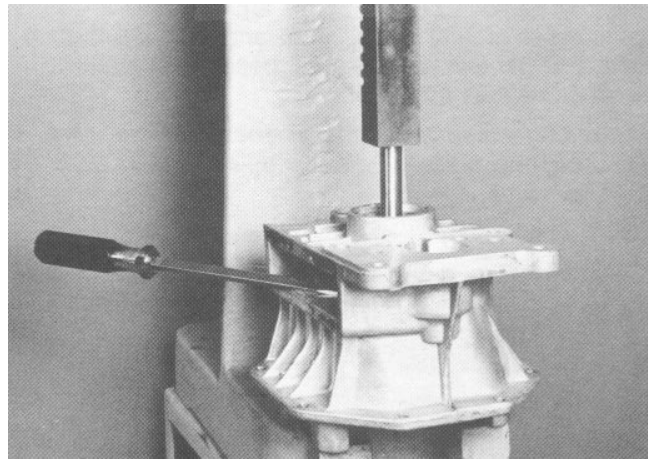

Figure 30
12. Position the housing assembly on a suitable press. Place a 1/8 inch (3 mm) piece of steel or a screwdriver blade under the edge of the spur gear. This will prevent the spur gear from cocking and possibly cracking the housing (Fig. 30).